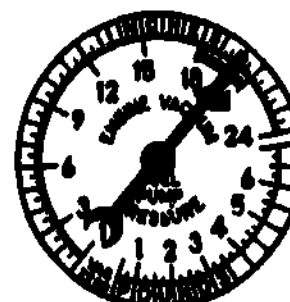
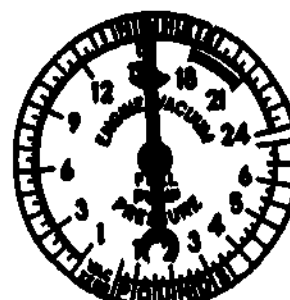
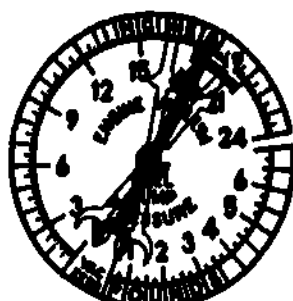
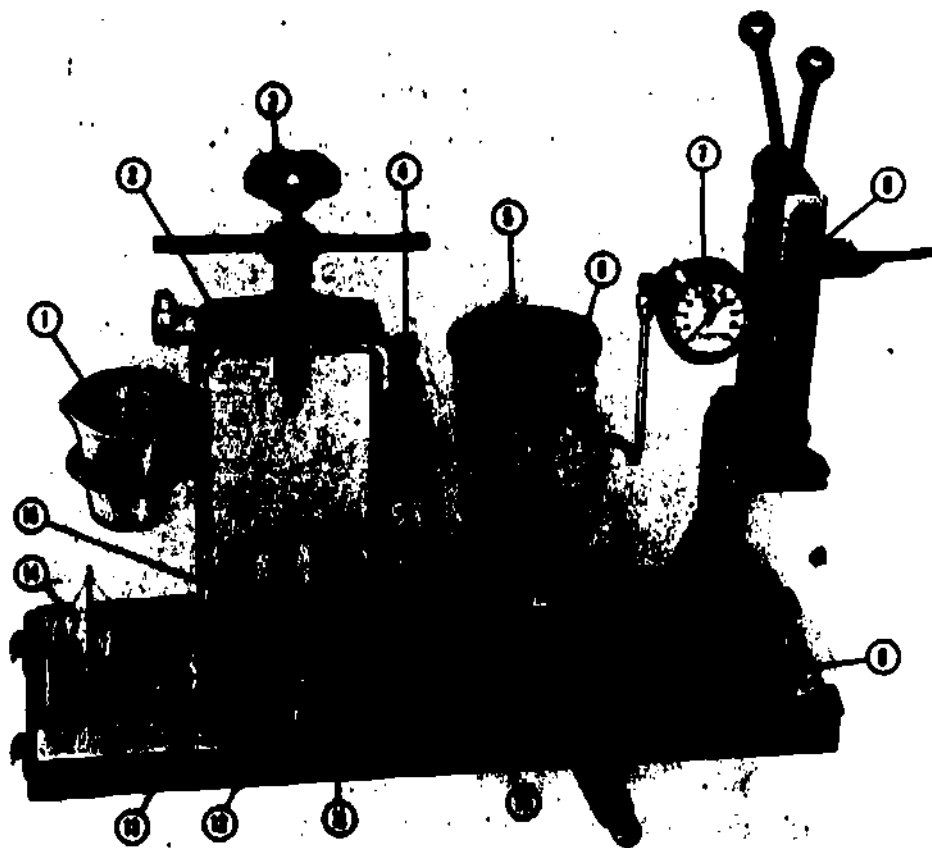

Fig 1-3, Normal vacuum reading
Fig 1-4, Loss of power affecting all cylinders.
Fig 1-5, Improper carburetor adjustment causes slow oscillation.
Fig 1-6, Loss of power on one or more cylinder causes steady pulsation.
a. **Vacuum test.** This test is made by connecting the gage to the intake between the carburetor and the engine. The connection may be at the base of the carburetor or at a plug near the center of the intake manifold. Some engines are not equipped to be tested with the vacuum gage; there is no place to connect the gage. After the gage is connected and the engine is operating at normal operating temperature, note the inches of vacuum on the gage. A steady needle that is between 18 and 21 inches vacuum is normal (fig 1-3). A steady reading below 18 inches (fig 1-4) indicates a loss of power due to a condition that is affecting all cylinders. The loss of power may be due to late ignition timing, improper sealing of piston rings, or mechanical drag caused by tight bearings. An improperly adjusted carburetor is usually indicated by a reading that slowly drifts from one reading to another (fig 1-5). Should the needle pulsate (jump) steadily from one reading to another (fig 1-6), there is a complete loss of power on one or more cylinders. The power loss may be caused by leaky valves, blown head gasket, restricted intake manifold, or faulty ignition. An occasional pulsation of the needle indicates ignition failure or sticking valves. If the reading starts between 18 and 21 inches vacuum and gradually falls lower when the engine rpm is held steady at approximately 2000 rpm, the cause is probably a restricted exhaust system.